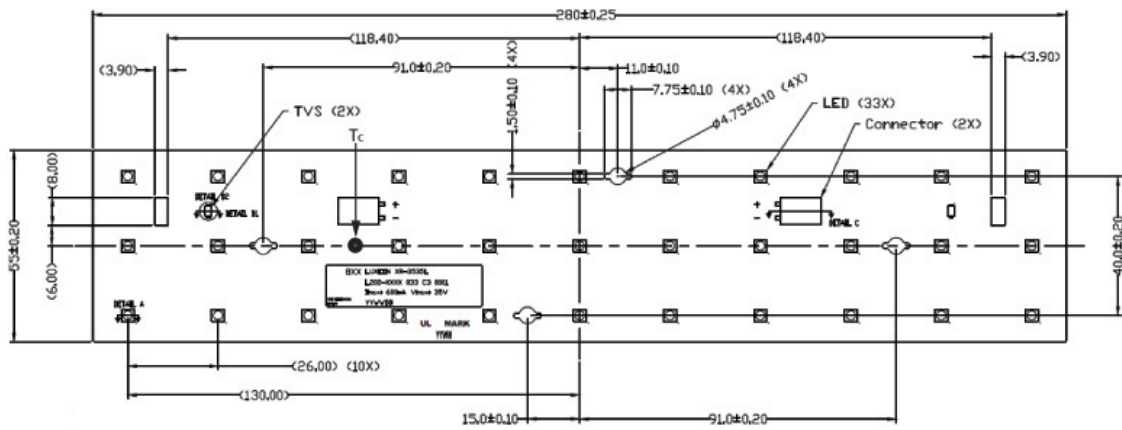

Figure 9: Mechanical dimensions for L22 - xxxx033C30001, outline, screw hole and LED pitch.
- Notes for Figures 9, 10 and 11: